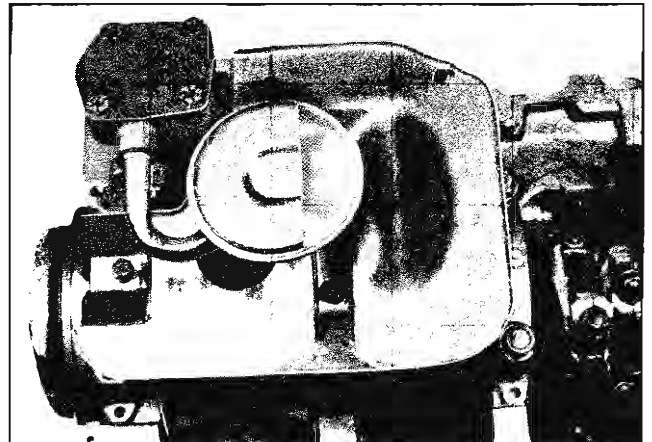

Fig. 6-52 Oil Pump Screen Assembly
1. Clean all parts thoroughly. Screen must be thoroughly cleaned by using a fluid such as used for carburetor cleaning (Fig. 6-52).